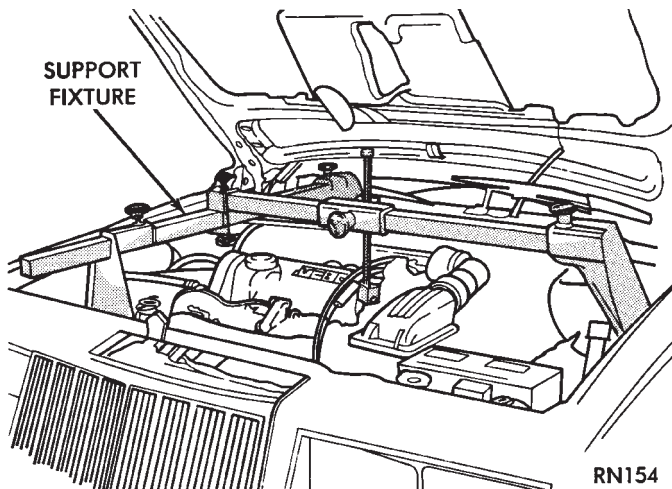

Fig. 1 Engine Support Fixture
- (2) Disconnect negative battery cable.
- (3) Disconnect transaxle shift linkage.
- (4) Install engine support fixture and support engine (Fig. 1).